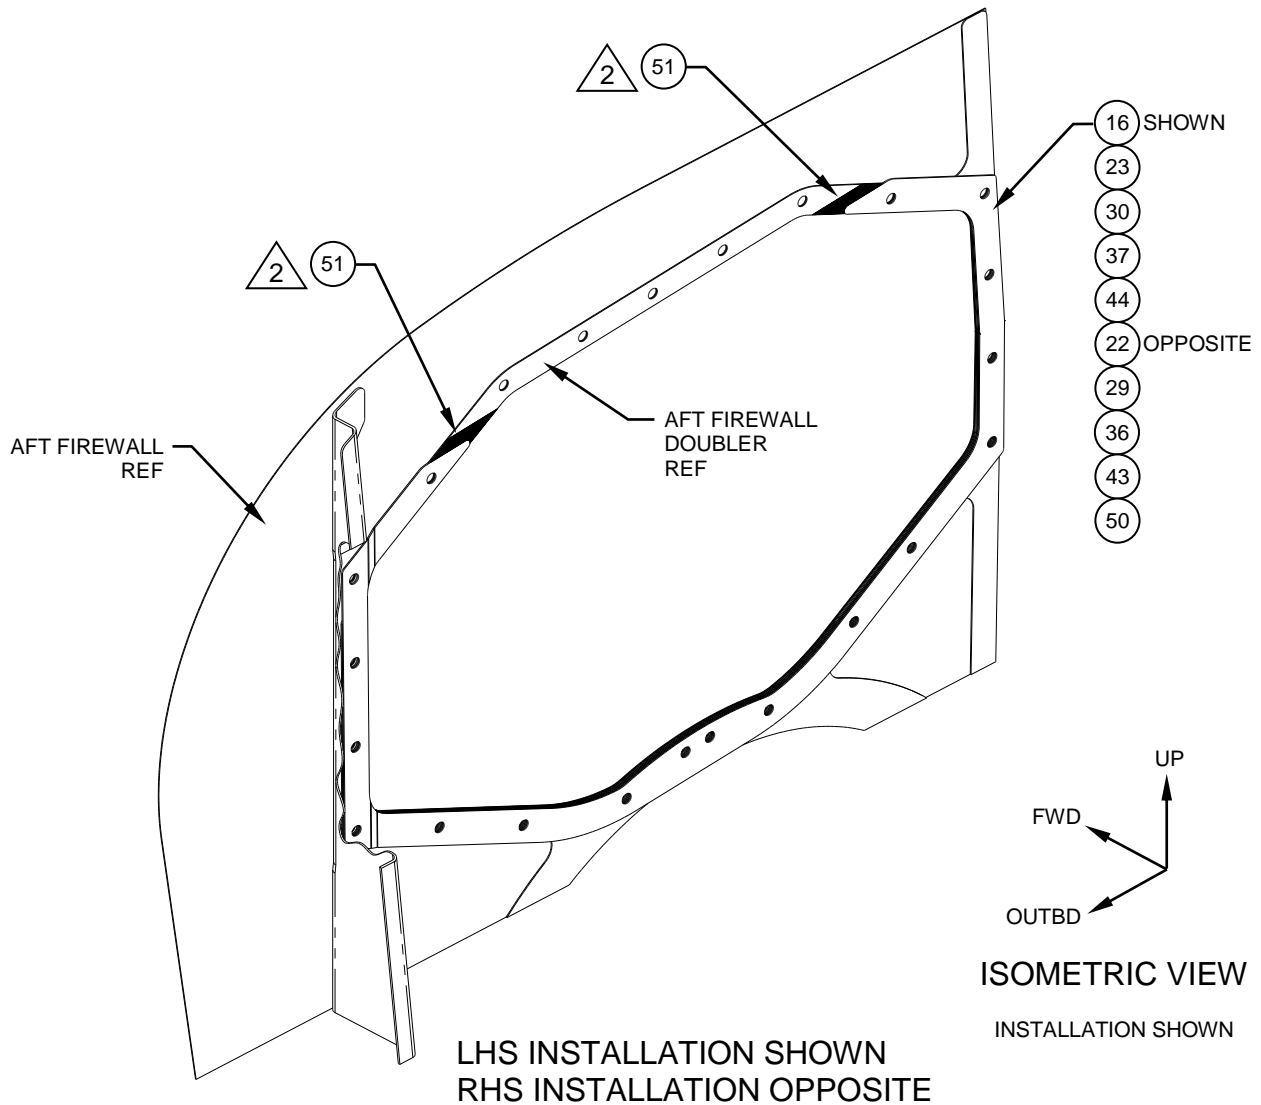

Figure 4
14. Apply Sealant (Item 51) to the upper edges of the Shim, Assy, LHS (Item 16, 23, 30, 37, or 44 as determined by appendix A) and feather the sealant out along the AFT Firewall Doubler. Reference Figure 4.
15. Apply Sealant (Item 51) to the upper edges of the Shim, Assy, RHS (Item 22, 29, 36, 43, or 50 as determined by appendix A) and feather the sealant out along the AFT Firewall Doubler. Reference Figure 4.